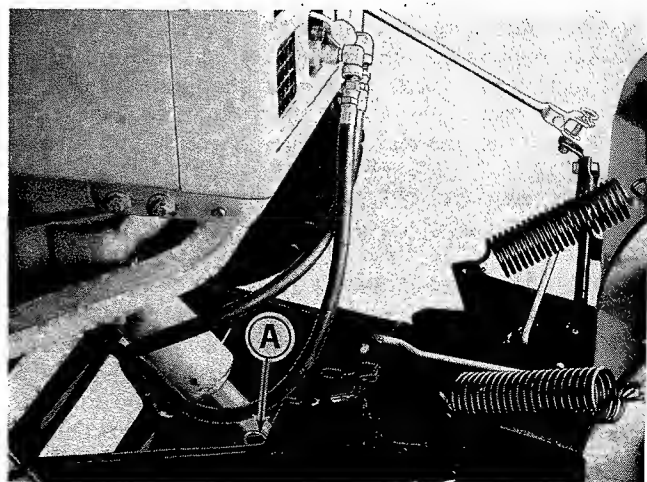

Figure 7. Hydraulic cylinder attached to blade.
6. See figure 7. Attach the rod end of the hydraulic cylinder to the grader blade at (A) using a pin and spring clip. It may be helpful in doing this to extend the rod end of the hydraulic
3. See figure 7. Disconnect the rod end of the hydraulic cylinder from the snow plow and dozer blade by removing the pin and spring clip at (A).
6. See figure 7. Remove the spring clip and pin at (A) to release the hydraulic cylinder from the snow plow and dozer blade hitch.